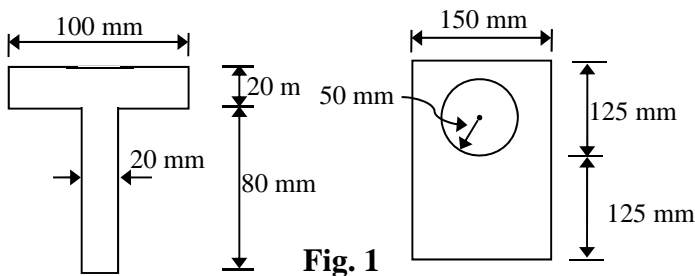

Fig. 1
- The sections of the beam shown in Fig. 1 are subjected to a positive bending moment of 20 kN.m. Determine (i) the neutral axis and the moment of inertia of the cross-section, (ii) the stresses in extreme fibers, (iii) the resultant compressive force above neutral axis, (iv) the resultant tensile force below neutral axis, and (v) the lever arm of the couple.